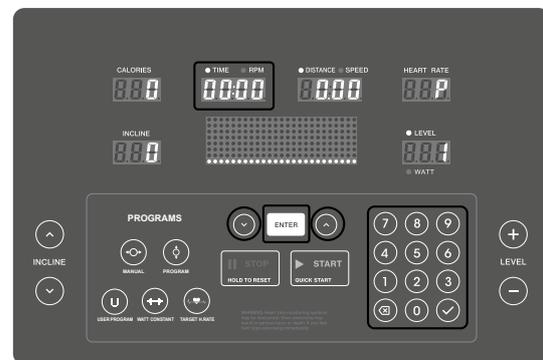

FIGURE 4
- 3.1. Confirm each value with ENTER (Figures 4–6).